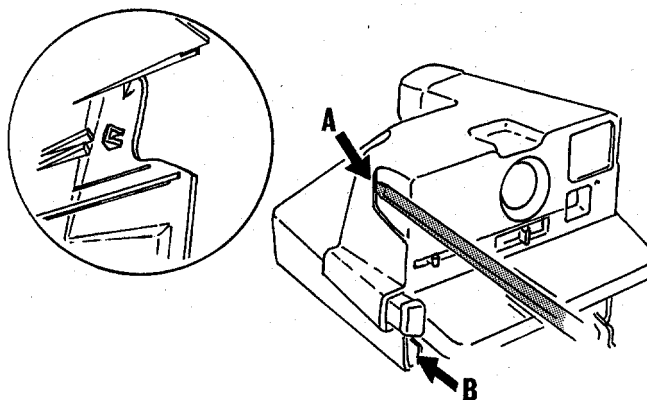

Fig. 8 Removing the Apron from the Camera Body
8. Open the Film Door to remove the Apron. Insert a soldering aid, first at position A and then B (Fig. 8), to free the Body detent lugs from the Apron. Carefully “lever” the Apron out of the Body. Repeat the process on the opposite side. The S1 Button and S10 Button with Return Spring will fall out.